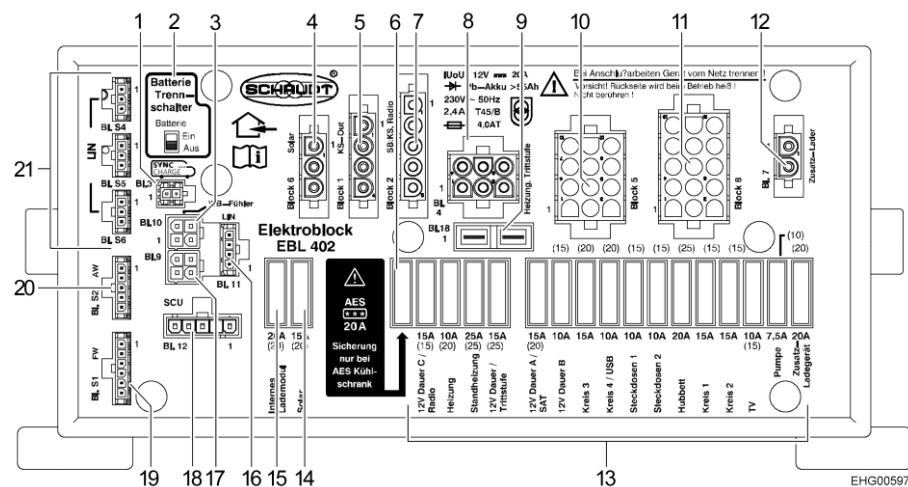

Fig. 143 Transformer/rectifier (EBL 402)
- Move the battery cut-off switch (Fig. 143,2) to the "Aus" (Off) position on the transformer/rectifier EBL 402.
- Move the battery cut-off switch (Fig. 143,2) to the "Ein" (On) position on the transformer/rectifier EBL 402.